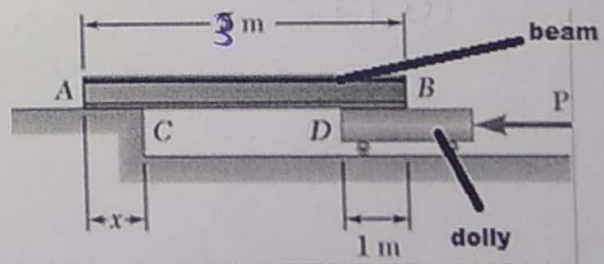

Figure 4
4. A 3 m beam, weighing 4.8 kN, is to be moved to the left onto the platform. A horizontal force  $P$  is applied to the dolly, which is mounted on frictionless wheels (Figure 4). The coefficients of friction between all surfaces are  $\mu_s = 0.30$  and  $\mu_k = 0.25$ , and initially  $x = 0.6$  m. Knowing that the top surface of the dolly is slightly higher than the platform answer the following: